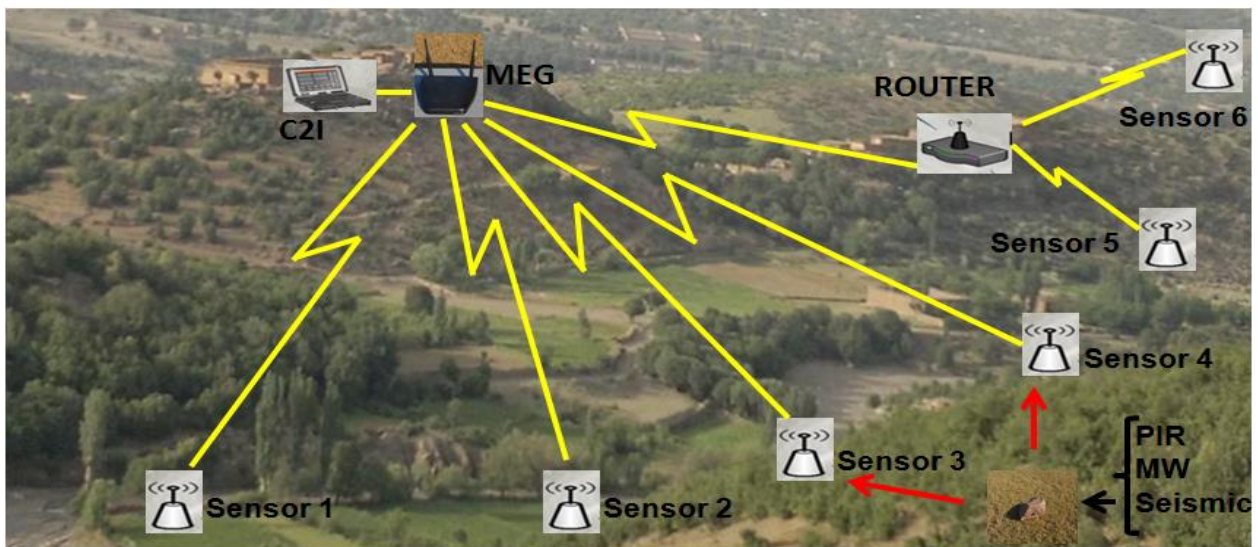

Fig.1 UGS depl around a def post
1. The sys comprises of three basic comps incl **Sensor Node**, **Media Exch Gateway (MEG)**, Comd, and Con & Int (**C2I**) sta (laptop), & where nec a **router/relay node** to enhance comm rg of the sys. Each sensor node is equipped with multiple active and passive motion detection sensors incl Passive Infrared (PIR) Sensor, Microwave (MW) Sensor, and Seismic Sensor, a radio comm device (Zigbee) and a nav module housed in a fibreglass stone. Whenever a sensor node detects some intrusion the info is passed wirelessly to MEG which tpt it on Ethernet cable to C2I sta where wng is displayed on satellite imagery/map. The UGS sys works in real time. The UGS sys is powered by btys and hybrid solar power arng. Pictorial view of UGS sys depl around a def post is shown in fig.1. Details of the UGS sys comps are covered in succeeding paras.